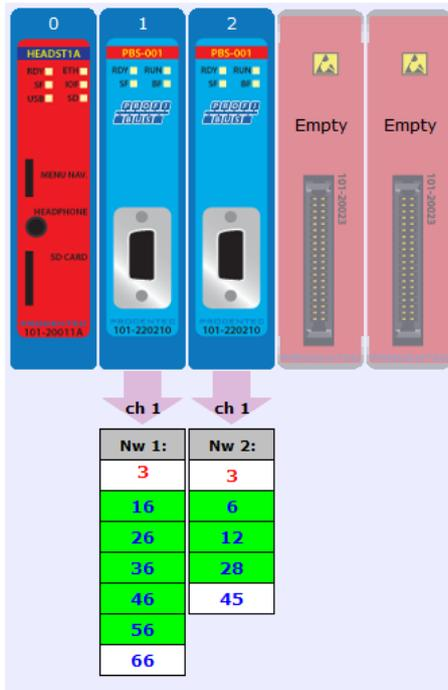

Fig. 74 - ComBricks configuration screenshot of the web server
A typical ComBricks configuration for a DP/DP setup may look like **Fig. 74**:
**ATTENTION:** in some configuration tools, the slot numbers do **not** correspond to the slots displayed in **Fig. 74**. The modules are numbered from 0 instead of 1. This is not the case for all configuration tools. Make sure to check this before adding modules to your configuration.